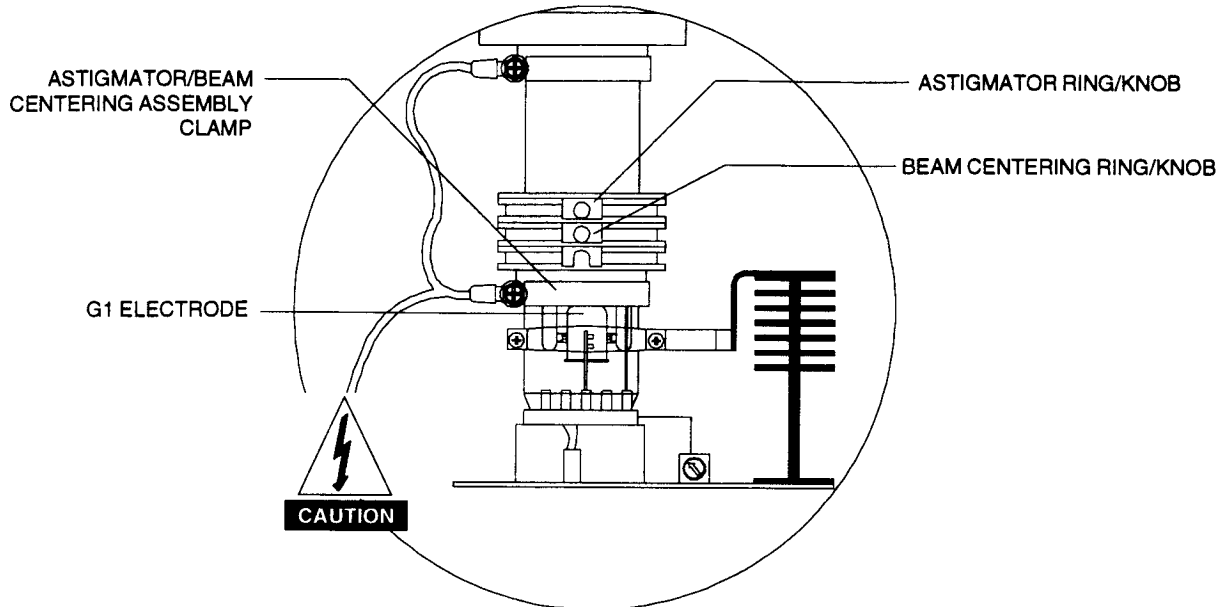
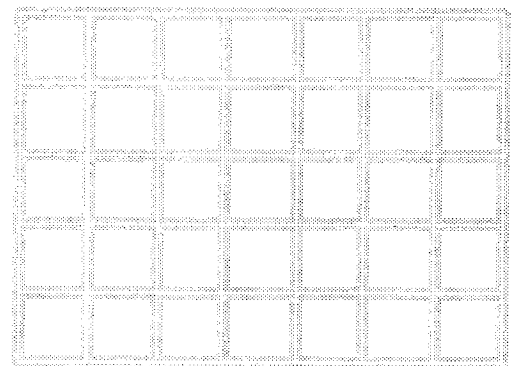

FIGURE 9-30. Astigmator/Beam centering assembly position
FIGURE 9-31.
- STEP 1. Check and position the astigmator/beam centering assembly. The clamp used for securing the assembly should be in-line with the end of the G1 electrode located inside and at the rear of the CRT neck. See Figure 9-30.
- ✘ Adjust the beam center ring, closest to the CRT amplifier (Figure 9-30), by rotating and turning the knob until the bright vertical and horizontal lines in the crosshatch pattern are centered within the de-focused crosshatch pattern or halo. See Figure 9-31.